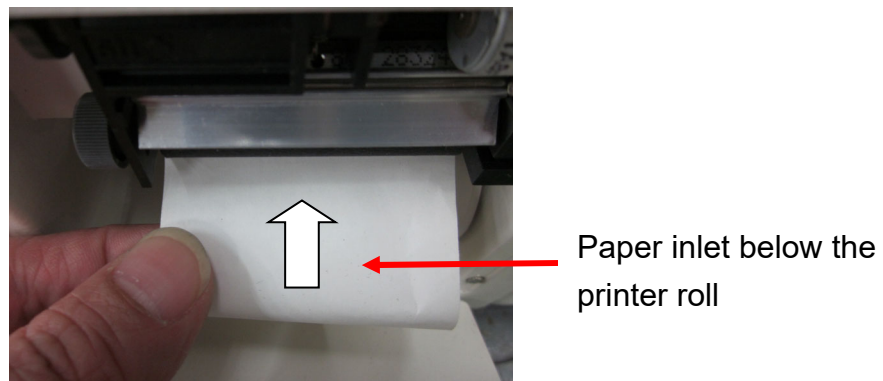
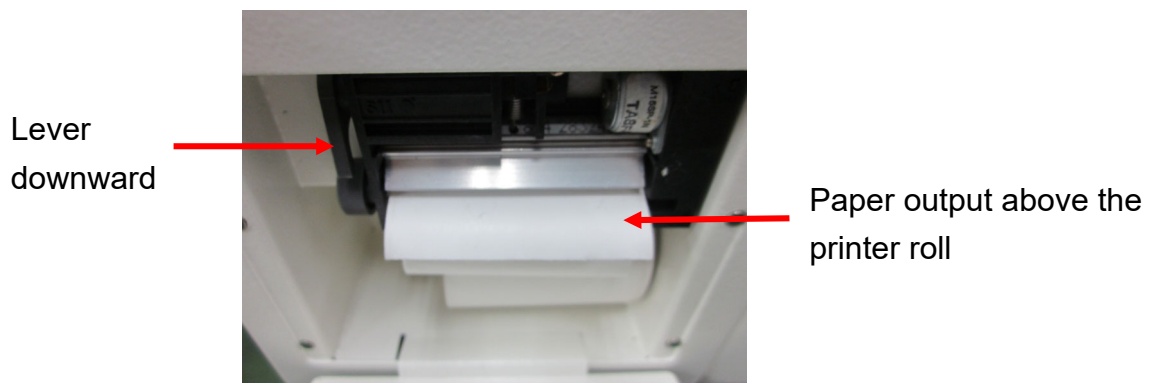

Figure 159
Figure 160
E. Replace with a new one thermal paper in the compartment, and. Locate the thermal paper to the paper inlet as shown in Figure 159, and then push the thermal paper until you can pull it out. Position the lever in the “downward position” as shown in Figure 160.